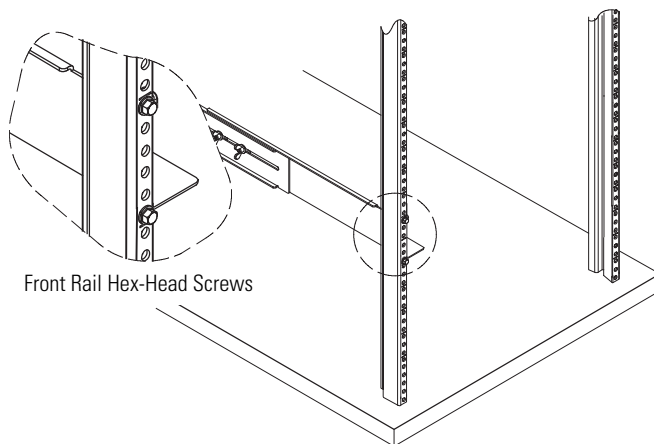

Figure 5. Securing the Front Rail
3. Secure the rail to the front of the rack with two hex-head screws (see Figure 5).